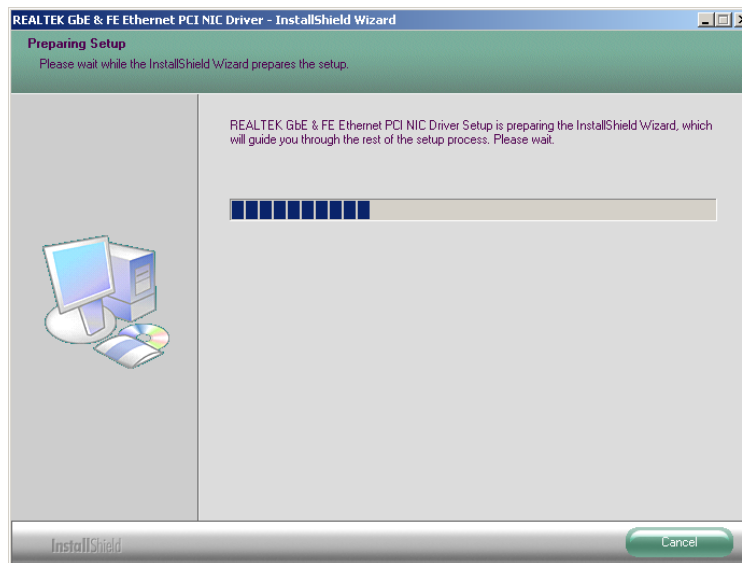

Figure 7-34: RTL8110SC InstallShield Wizard Continues
Step 10: The InstallShield Wizard continues (Figure 7-34).